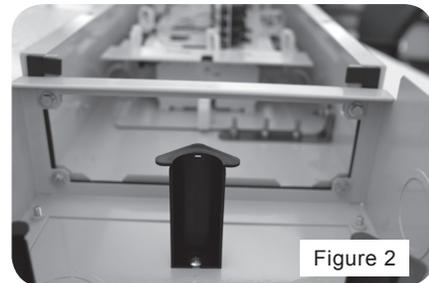

Figure 2
4. Secure the base plate or skirt to the enclosure by completely tightening all screws. **(Figure 2)**